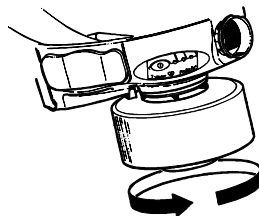
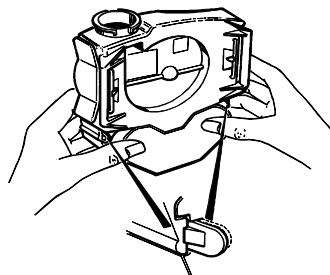

Fig. 3
Fig 4
9. Screw the filter firmly home until the tab on the base of the filter is felt to pass over the protrusion on the blower body or filter adaptor. Then continue until the filter is finger tight (See Fig. 3). **DO NOT OVER TIGHTEN.** **DO NOT** allow the tab to pass the 2nd mark (See Fig. 4).
4. Check that the battery has been freshly charged and is of the required duration. The medium capacity battery is for a half shift (4 hours) and the high capacity battery is for a full shift (8 hours). Slide the battery into the blower, ensuring that both clips are engaged (See fig. 4).